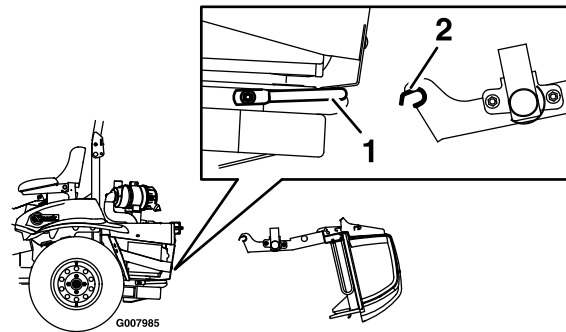

Figure 9
3. Lay the hopper assembly down as shown in Figure 9.
5. Pick up the frame legs and hook the notch onto the lower mount bar (see Figure 9).